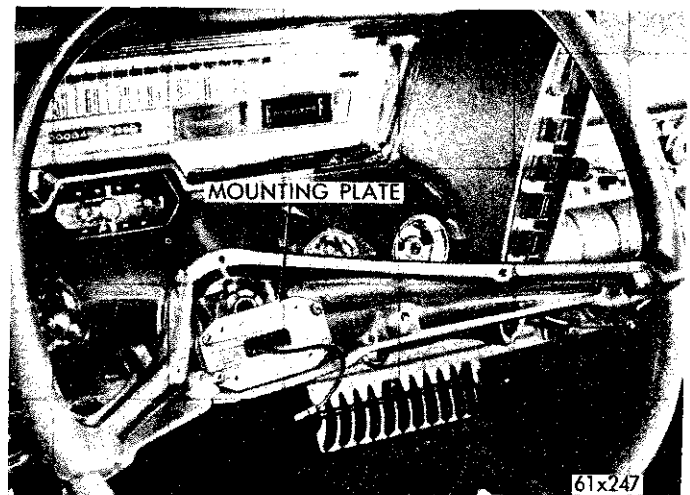

Fig. 15—Horn Blowing Ring Mounting Plate
(5) Remove the four screws and remove the horn blowing switch (Fig. 15).